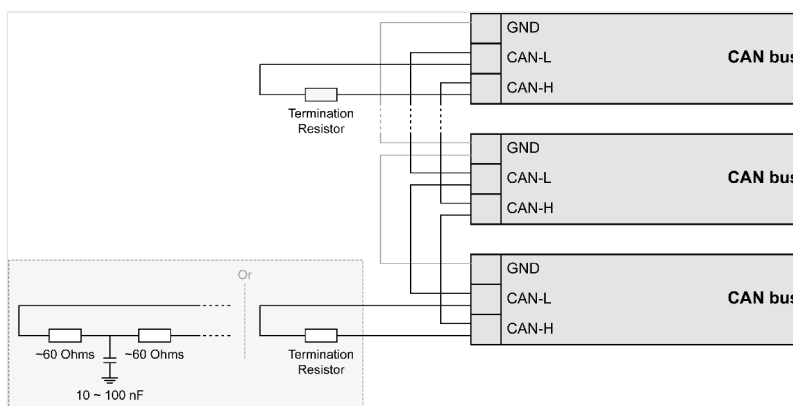

Fig. 25: CAN bus - termination
The termination resistor is connected between CAN-H and CAN-L (➡ Fig. 25).
- Divide the termination resistance into 2x60 Ohms with a center tap connected to ground via a capacitor of 10 to 100 nF (➡ Fig. 25).